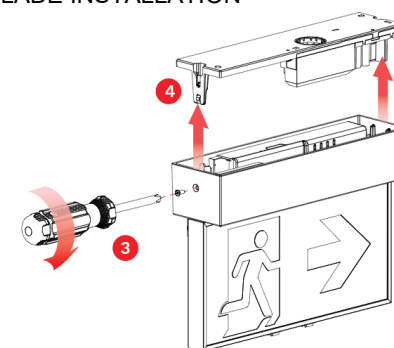

FIGURE 3
- Insert the Box/Blade Assembly and secure the two side screws (See Figure 3)
2. Remove the two side screws on the Box (See figure 3)